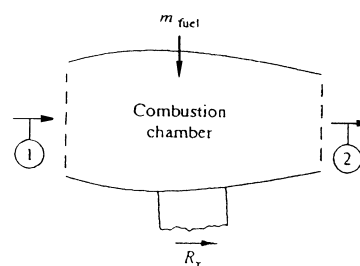

Fig. P3.50
**3.50** The jet engine in Fig. P3.50 admits air at 20°C and 1 atm at (1), where  $A_1 = 0.5 \text{ m}^2$  and  $V_1 = 250 \text{ m/s}$ . The fuel-air ratio is 1:30. The air leaves section (2) at 1 atm,  $V_2 = 900 \text{ m/s}$ , and  $A_2 = 0.4 \text{ m}^2$ . Compute the test stand support reaction  $R_x$  needed.